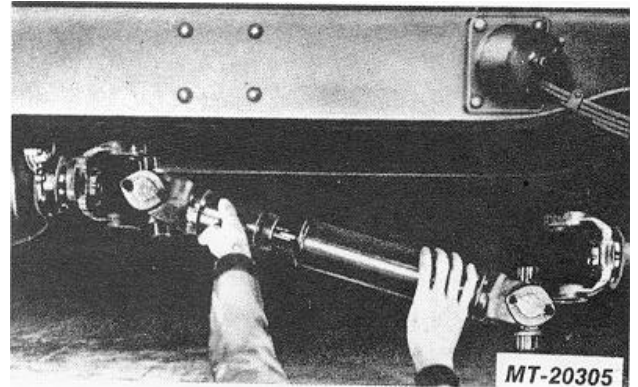

Fig. 16
3. Double End Yoke Type (Bearing Cap Construction) (Fig. 16)